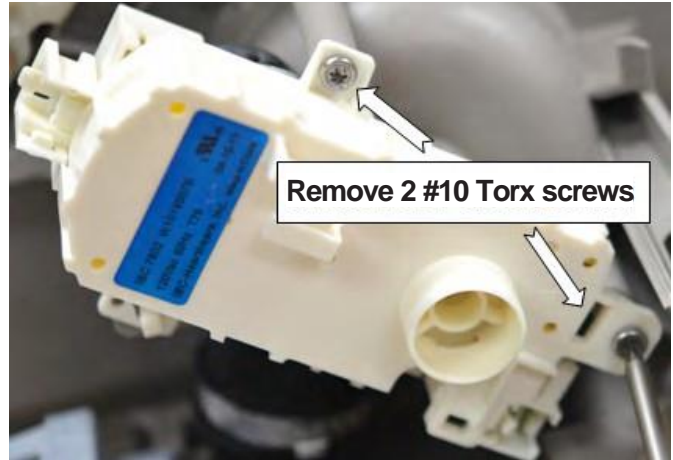

Figure 2 - Diverter assembly w/o spray arm motor
3. Remove 2 Torx screws, see figure 2. (Diverter assembly shown without lower wash arm motor.)
4. Lift out, see figure 2.